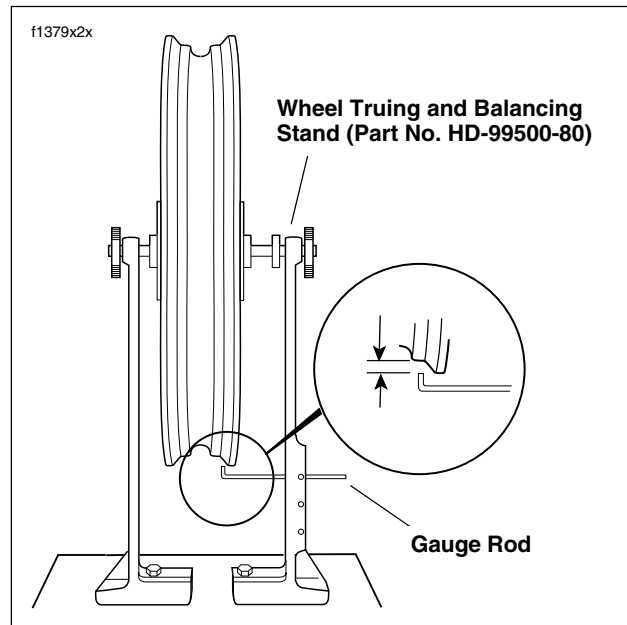

Figure 2-11. Checking Cast Rim Radial Runout
1. See Figure 2-11. Install truing arbor in wheel hub and place wheel in WHEEL TRUING AND BALANCING STAND (Part No. HD-99500-80).